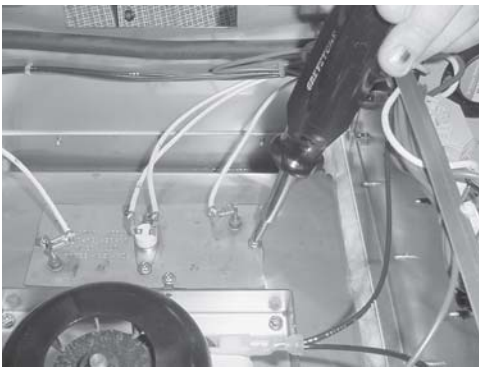

Figure 3-32
3. Using a Phillip's head screwdriver, remove the 4 screws securing the heater and remove heater. Figure 3-32.